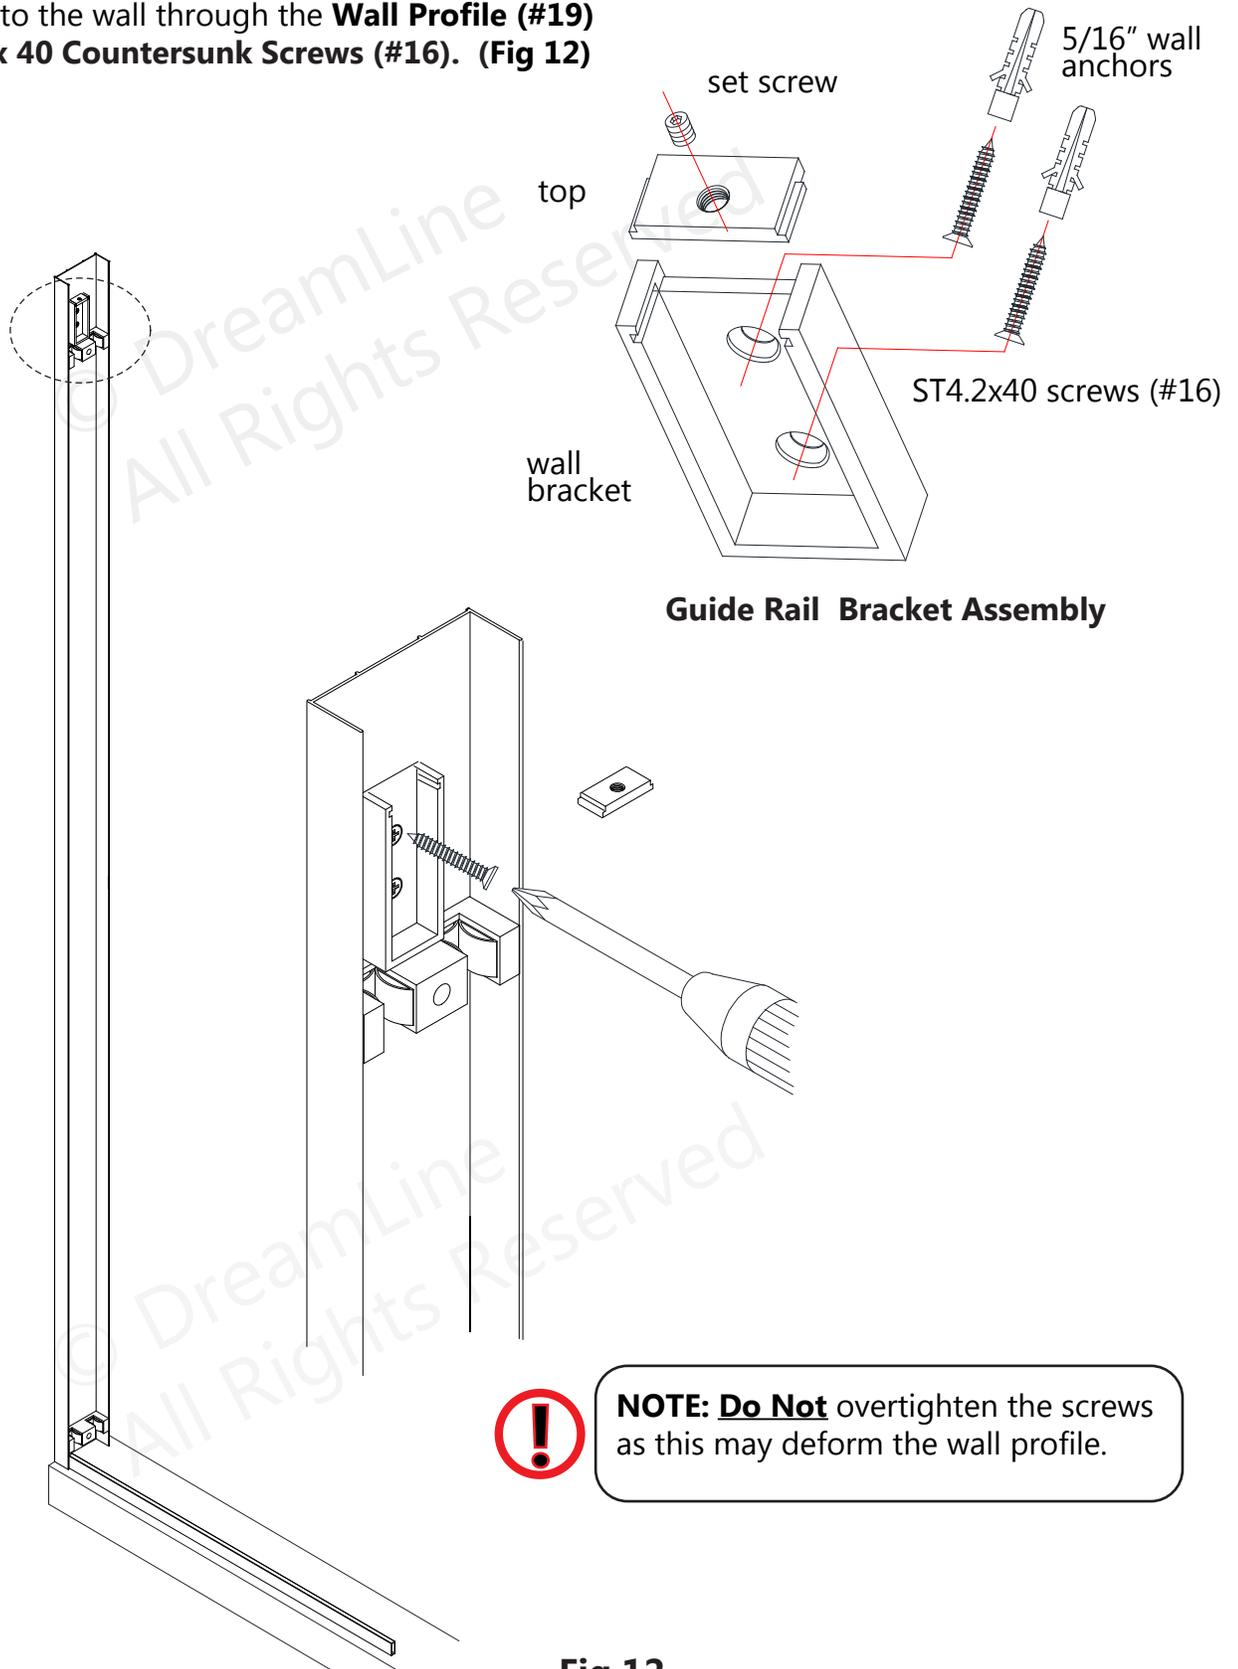

Fig 12
12. Remove the top of the **Guide Rail Bracket Assembly (#02)**. Align the **Guide Rail Bracket Assembly (#02)** with the top two holes in the **Wall Profile (#19)**. Attach the **Guide Rail Bracket Assembly (#02)** to the wall through the **Wall Profile (#19)** using the **ST4.2 x 40 Countersunk Screws (#16)**. (Fig 12)